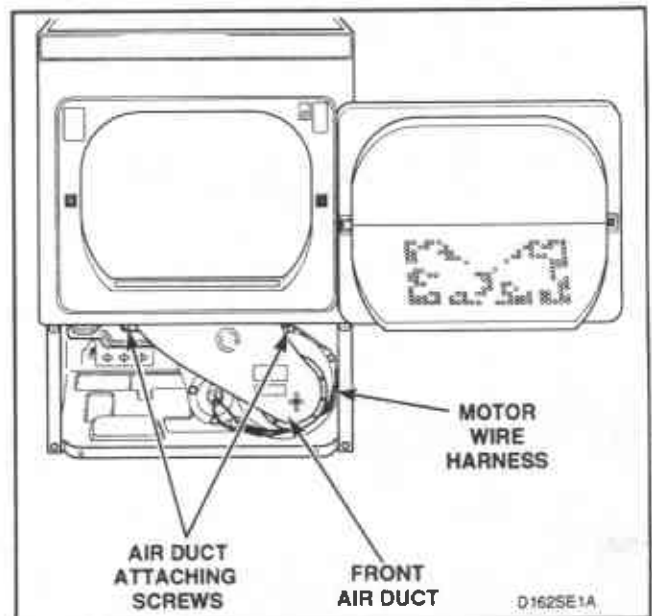
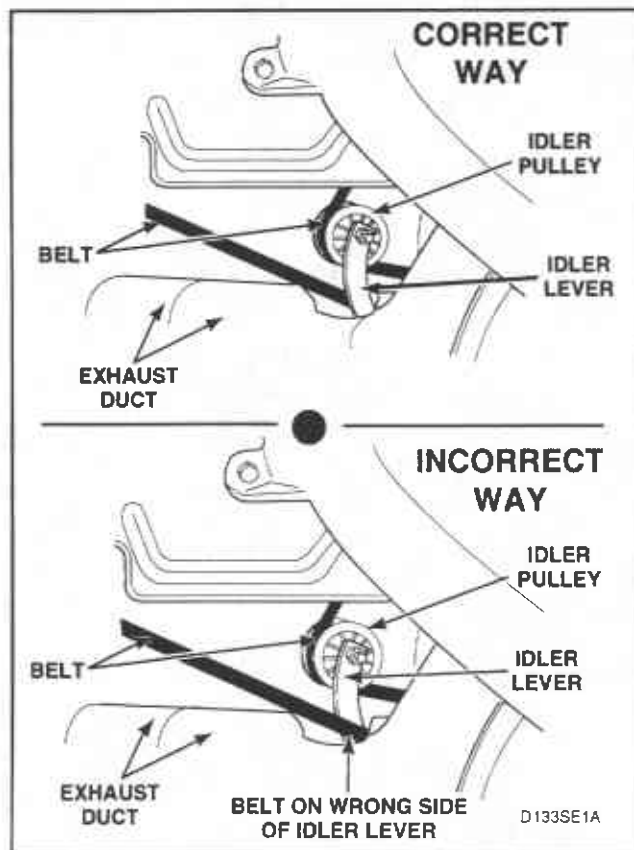

Figure 28
Figure 30
- d. Remove two screws holding duct to front bulkhead and remove air duct, *Figure 28*.
- d. Remove screws holding air duct to front bulkhead and remove air duct, *Figure 28*.
- f. Remove cylinder belt from idler and motor pulleys, *Figure 30*.
IMPORTANT: When reinstalling motor and exhaust assembly, be sure wire harness on right side is clipped to motor mounting bracket and is routed along dryer base (between motor mounting bracket and right side of cabinet), *Figure 28*. Tab on rear of motor mounting bracket must be slid into slot in dryer base. Be sure the belt has been installed on the correct side of the idler lever, *Figure 30*.